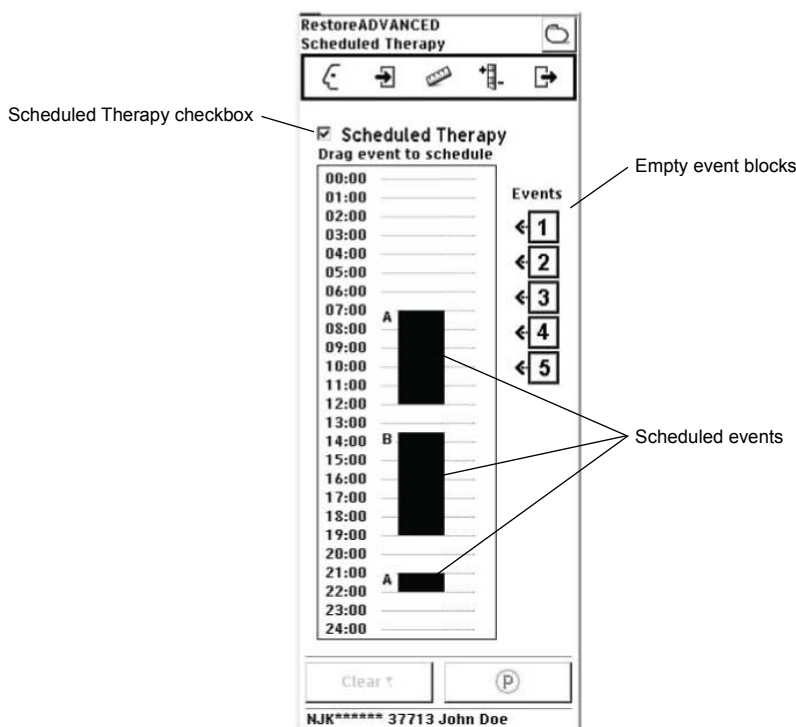

Figure 43. Programming Scheduled Therapy.
2. Select the Scheduled Therapy checkbox (Figure 43) to enable the feature (if Scheduled Therapy is not active).
3. To create a new scheduled therapy event, drag an empty event block to the 24 hour event table that displays all scheduled events (Figure 43). The EVENT DETAILS screen appears.
2. Select a scheduled event on the 24 hour event table (Figure 43 on page 75). The EVENT DETAILS screen appears.
6. Hold the programming head steady over the neurostimulator, then press the PROGRAMMING (P) key or select the PROGRAM (P) button on the programmer screen.
5. Hold the programming head steady over the neurostimulator, then press the PROGRAMMING (P) key or select the PROGRAM (P) button on the programmer screen.